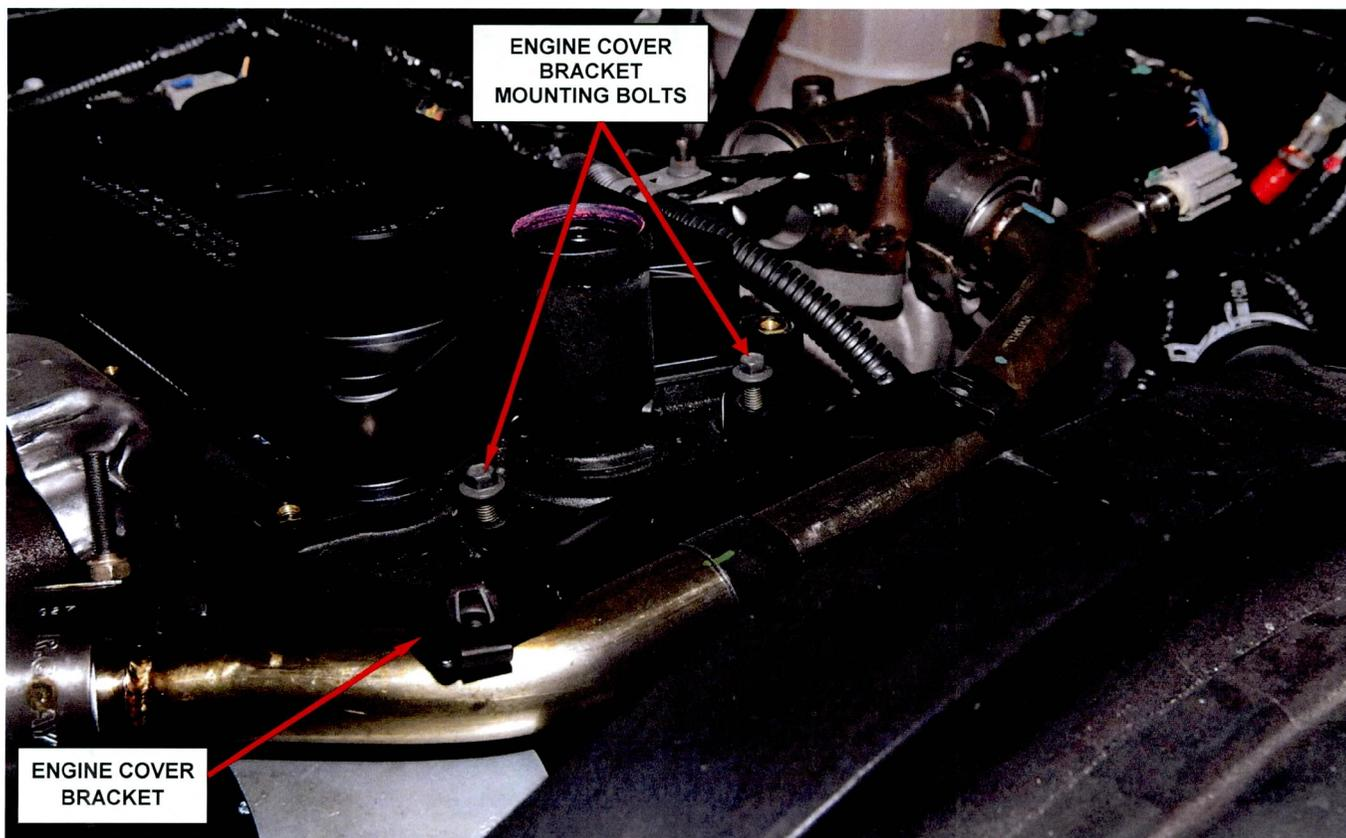

Figure 5 – Engine Cover Bracket
11. Install the new engine cover support bracket (Figure 5). Tighten the two mounting bolts to 89 in. lbs. (10 N·m).